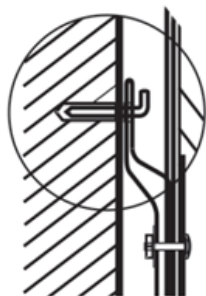

Fig 5
2. Once you have selected the proper site for the water heater, determine the spots for the anchor bolt holes with hooks (according to the specifications of the product you have acquired). Drill two holes of appropriate depth in the wall using a drill bit with the diameter corresponding to the anchor bolts supplied with the water heater. Insert the bolts into the holes and tighten the bolt nuts firmly by turning the bolt hooks clockwise, then hang the water heater on the anchor bolt hooks (see Fig. 5).